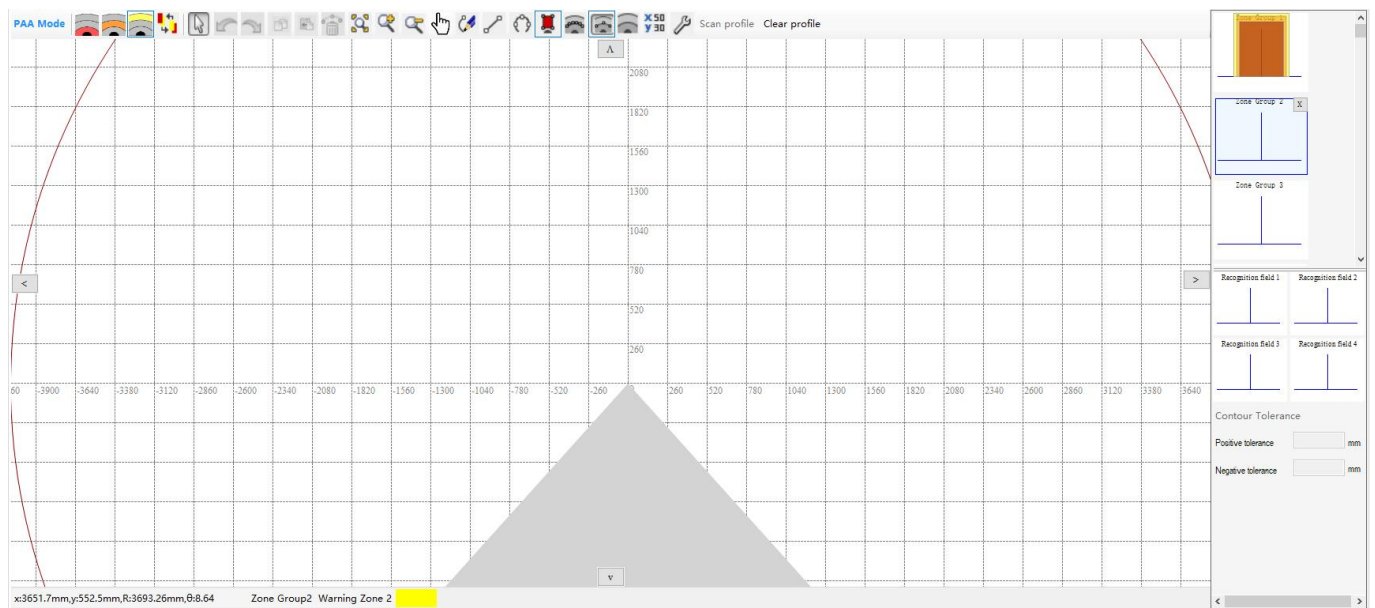

Fig.3.2.7 Zone group 2 is activated
Step 1: Click to select Field Set 2 as shown in Fig.3.2.7 below: